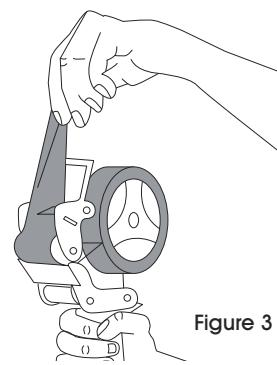

Figure 3
3. Pull tape over smoothing roller allowing tape to unroll freely off tape wheel. (See Figure 3)